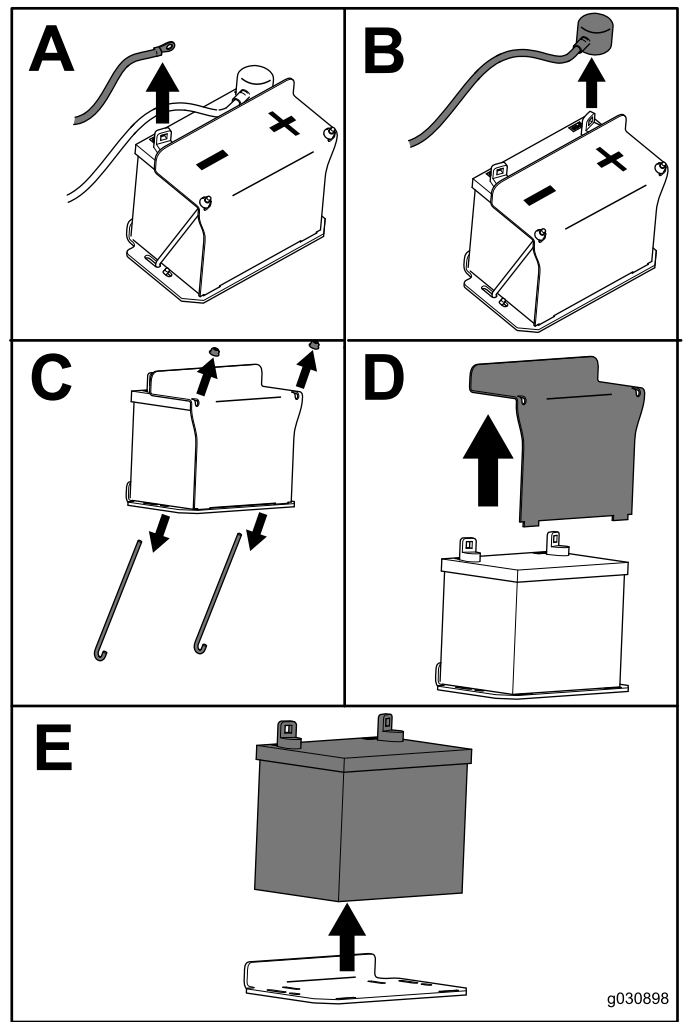

Figure 49
3. Remove the battery as shown in Figure 49.